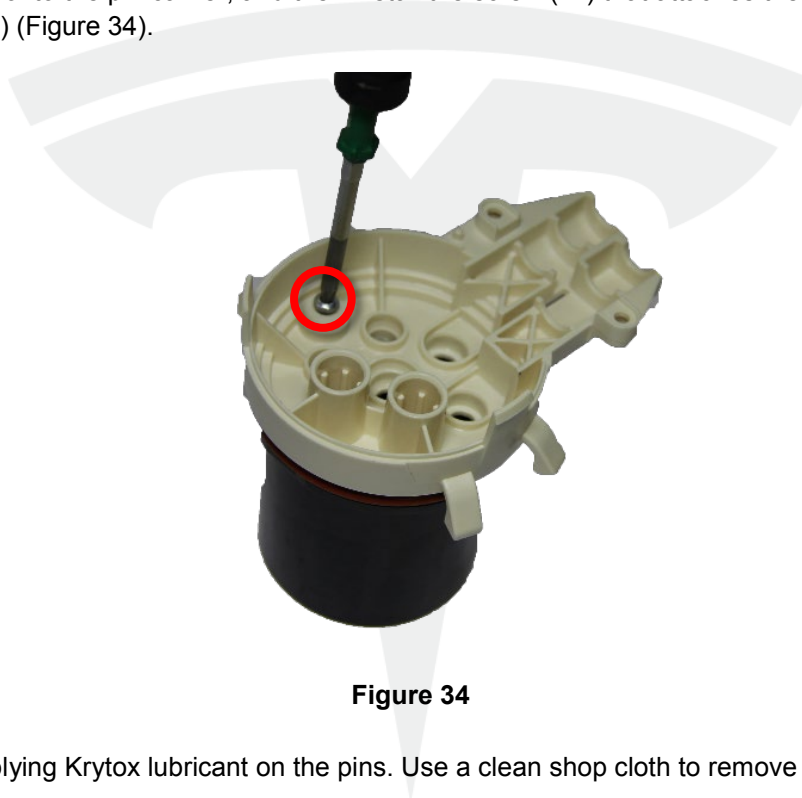

Figure 34
16. Install the pin housing onto the pin carrier, and then install the screw (x1) that attaches the pin housing to the pin carrier (torque 0.5 Nm) (Figure 34).